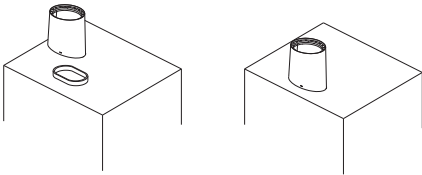

Figure 11
- **Oval outlets (Figure 11)**